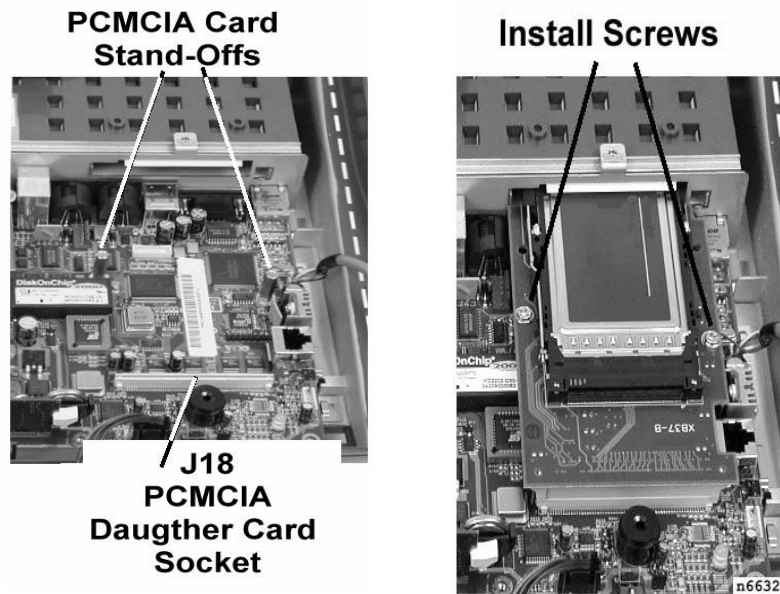

Figure 2-15: PCMCIA Daughter Card Installation
2. Refer to Figure 2-15 and note the location of the each stand-off in relation to the daughter card socket.
5. Install screws in each stand-off as shown on the right side of Figure 2-15.